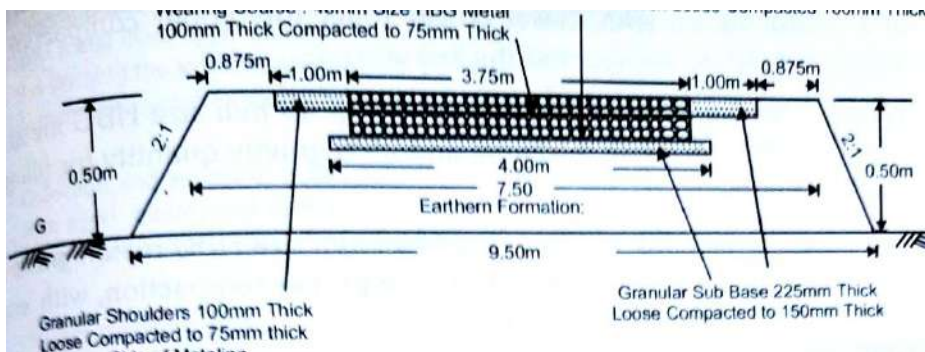

Fig.5
- B) Calculate the following quantities of WBM road shown in the fig.5 for a length of 1.50 km: